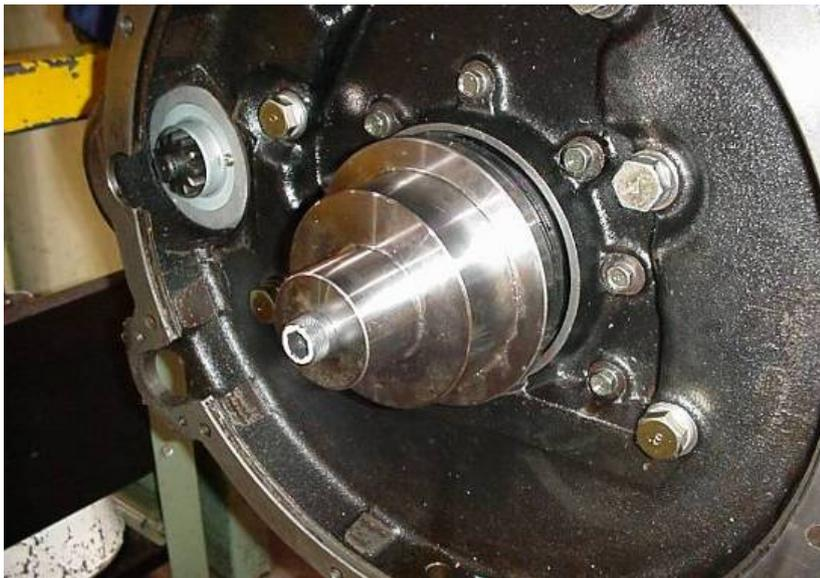

Figure 50 Push Cone (Located on Crank Plate and Against Seal)
- c. Position the push cone over the crank guide, locate it onto the seal and then engage the long screw into the crank guide (Figure 50).